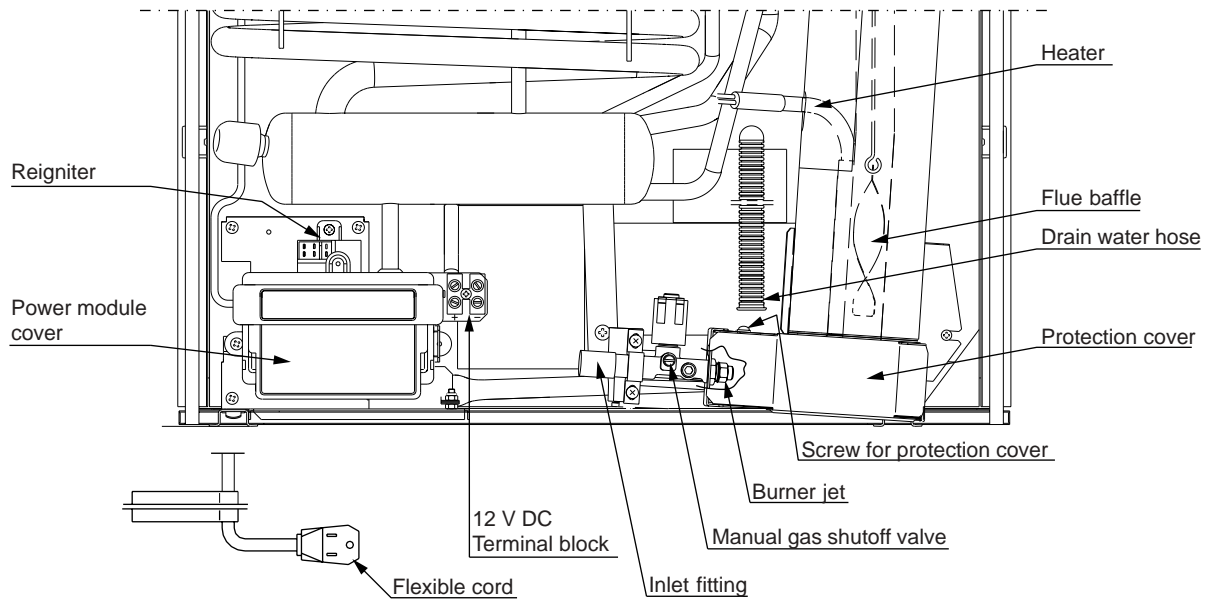

FIG. 1
2. Check that the gas flame is lit. In AUTO mode the AUTO mode indicator lamp (A) is on.
3. Close the manual gas shutoff valve at the back of the refrigerator. (See FIG. 1).
4. Wait for one minute. The CHECK indicator lamp (B) should be on, and the flame extinguished.
5. Remove protection cover (see FIG. 1) and open the manual gas shutoff valve. Do not change any button position on the control panel. Apply a non-corrosive commercial bubble solution to the burner jet orifice.
7. If no bubbles were present at the burner jet orifice, it should be rinsed with fresh water. Be careful not to damage the burner jet orifice. Replace cover and press the main power ON/OFF button (1) OFF and back ON. Normal operation of the burner should return. Allow the burner to operate for a minimum of 5 minutes.